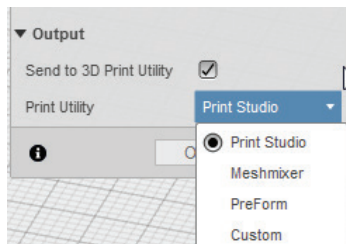
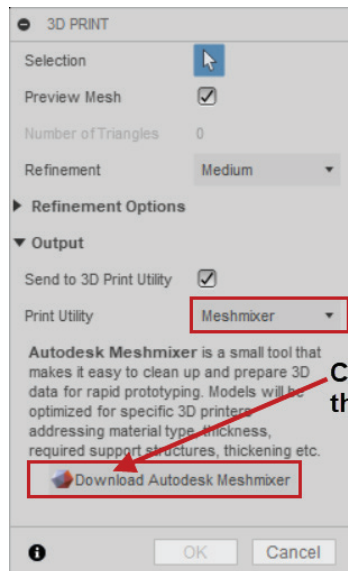

Figure-39. Output 3D-Print
Figure-40. Option to download Print utility
- Select the **Send to 3D Print Utility** check box in **Output** section to further edit the model in 3D printing utility. Select desired 3D Printing utility in **Print Utility** drop-down; refer to Figure-39. Note that 3D printing utilities are not installed automatically during Fusion 360 installation. On selecting the utility in **Print Utility** drop-down, an option to download and install the utility is displayed in the dialog box; refer to Figure-40. Download and install the desired utility.